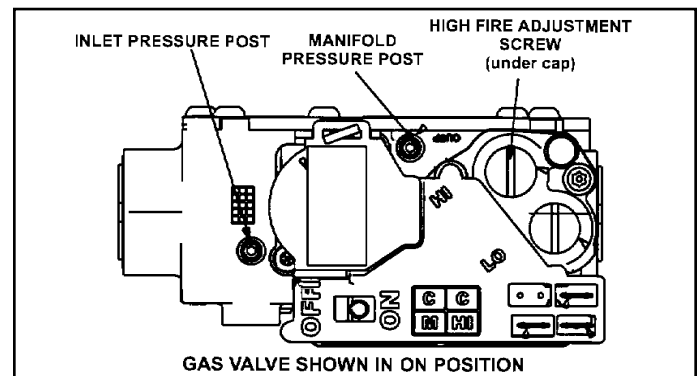

Figure 47.
6. Move gas valve switch to OFF. See Figure 47.
8. Move gas valve switch to ON. See Figure 47.
An inlet post located on the gas valve provides access to the supply pressure. See Figure 47. Back out the 3/32 hex screw one turn, connect a piece of 5/16 tubing and connect to a manometer to measure supply pressure. See Table 24 for supply line pressure.
A manifold pressure post located on the gas valve provides access to the manifold pressure. See Figure 47. Back out the 3/32 hex screw one turn, connect a piece of 5/16 tubing and connect to a manometer to measure manifold pressure.
4. After allowing unit to stabilize for 5 minutes, record low fire manifold pressure and compare to value given in Table 24. If necessary, make adjustment. Figure 47 shows location of low fire adjustment screw.
5. Repeat on high fire and compare to value given in Table 24. If necessary, make adjustment. Figure 47 shows location of high fire adjustment screw.